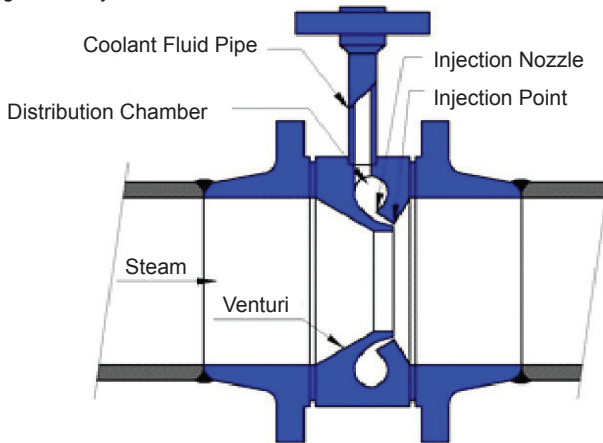

FIGURE 1 - DESUPERHEATED DAC SERIES
4. *Principle of Operation (Figure1)*
— 4. Principle of Operation (Figure 1) —
The operation of the DAC desuperheater is quite simple. Spray-water flow is throttled by a control valve that responds to the signal generated by the temperature control loop. The spray-water enters the desuperheater water tube and then continues into the distribution chamber (see figure 1). As the chamber fills, the spray-water is forced into the injection orifices. As the flow area is reduced, the spray water accelerates to the injection point. The accelerated flow results in a fine spray for efficient and rapid vaporization.